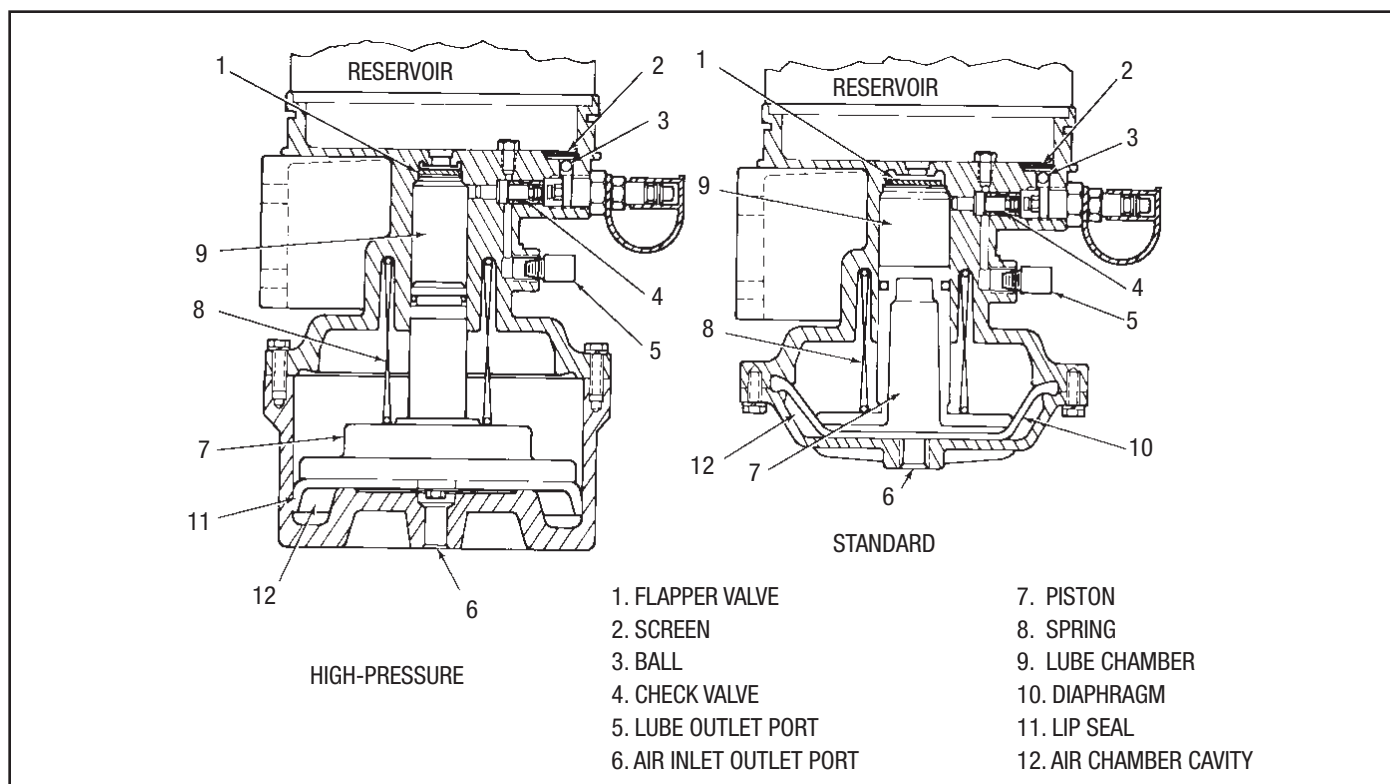

Figure 3. Air-Operated Pump Operation
Figure 3 portrays the air-operated pumps in the “at-rest” position. The figure represents both standard and high-pressure pumps. The description of operation applies to both. At this point, air is not present and spring (8) pressure has moved piston (7) to the down position. When the piston is down, flapper valve (1) opens and lubricant from reservoir fills lube chamber (9) above the piston. Spring pressure on check valve (4) prevents lubricant from flowing through the outlet port. This condition also allows residual pressure in the lube lines to raise ball (3), pass through screen (2) and return to the reservoir. This venting of the output lines allows injectors to prime themselves.